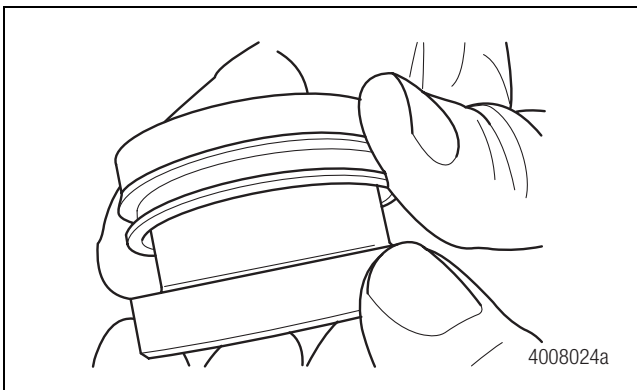

Figure 5.35
- Place the retainer onto a suitable driver from Meritor tool MST 1000. Figure 5.35.